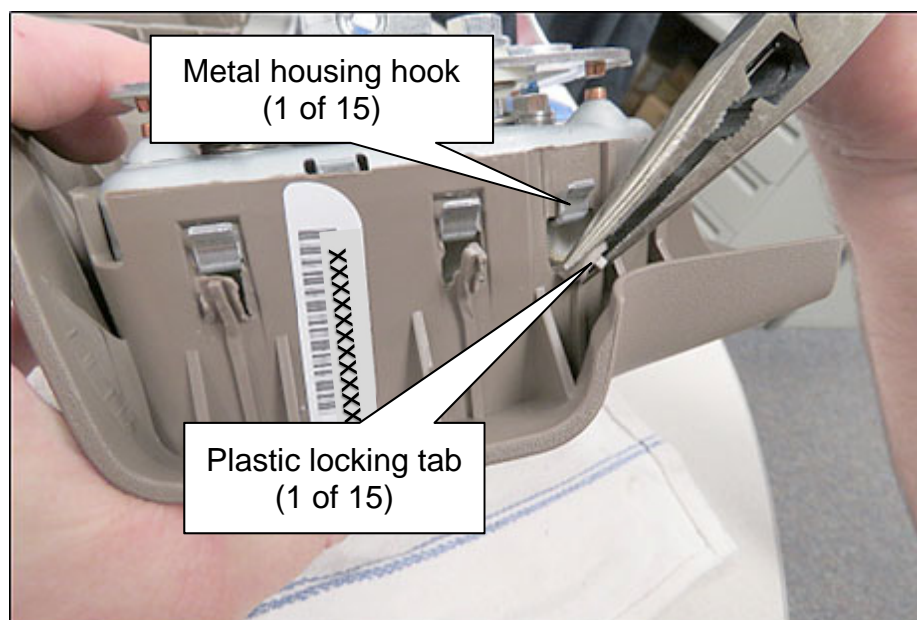

Figure 8
14. Using suitable needle nose pliers, disengage all fifteen (15) Air Bag Cover plastic locking tabs (Figure 8 and Figure 9).